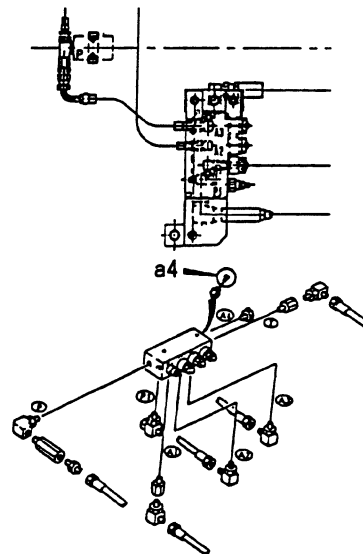

Fig. 5 Fitting position of pilot circuit pressure gauge
(2) Fitting position of pilot circuit pressure gauge (See Fig. 5.)